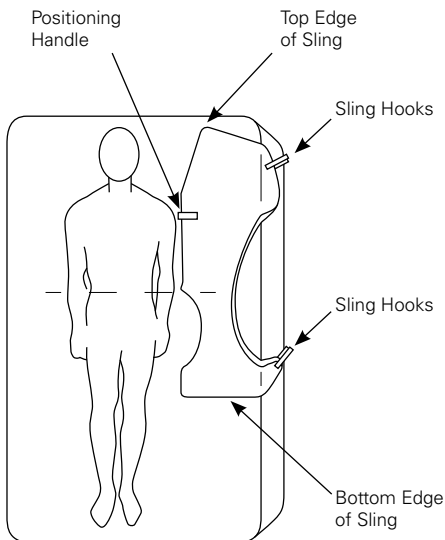

Figure 1
2. Fold the sling in half (lengthwise) and place the sling beside the resident (see figure 1).